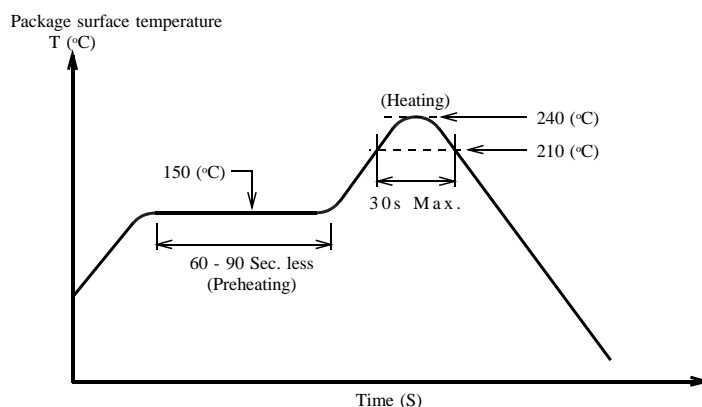

Fig. 5-1 (Temperature Profile)
(1) Upper and lower heating by far- and medium-infrared reflow soldering is recommended.
(2) The temperature must be kept at not less than 210°C for 30 seconds or less while the package surface temperature must not go above 240°C. A recommended temperature profile is shown in Fig. 5-1.
(3) Note that near-infrared reflow soldering produces thermal stress similar to that of dip soldering.
(1) The temperature must be kept at not less than 210°C for 30 seconds or less while the package surface temperature must not go above 240°C.
(2) A recommended temperature profile is shown in Fig. 5-1.